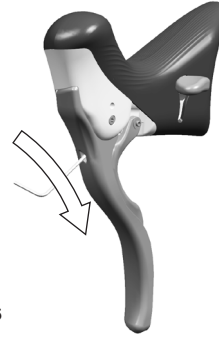
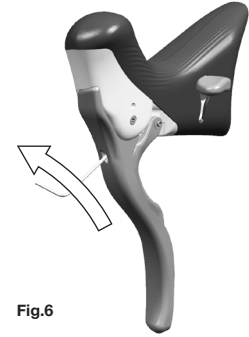

Fig.5
Fig.6
- Rotate clockwise to increase the distance of the lever from the handlebar (Fig. 5), or rotate counter-clockwise to reduce the distance of the lever from the handlebars (Fig. 6).